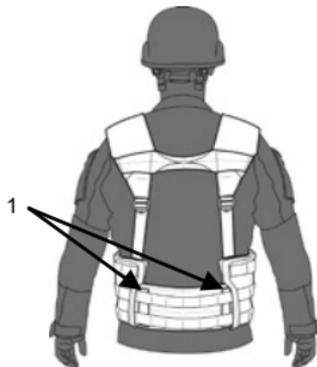

Figure 4. Stiffened Adjustment Tabs.
6. Secure the stiffened adjustment tabs (Figure 4, Item 1), and wear the vest as shown.